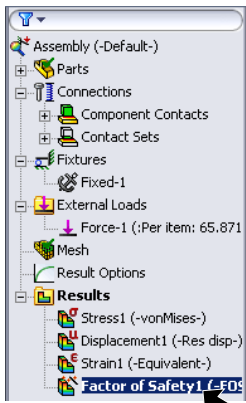

Fig. 21
Step 1. **Double click Factor of Safety1** in the Simulation Study Tree to display the Factor of Safety1 plot, **Fig. 21**.
Step 3. **Double click Factor of Safety1** in the Simulation Study Tree to display the Force Property Manager, **Fig. 21**.